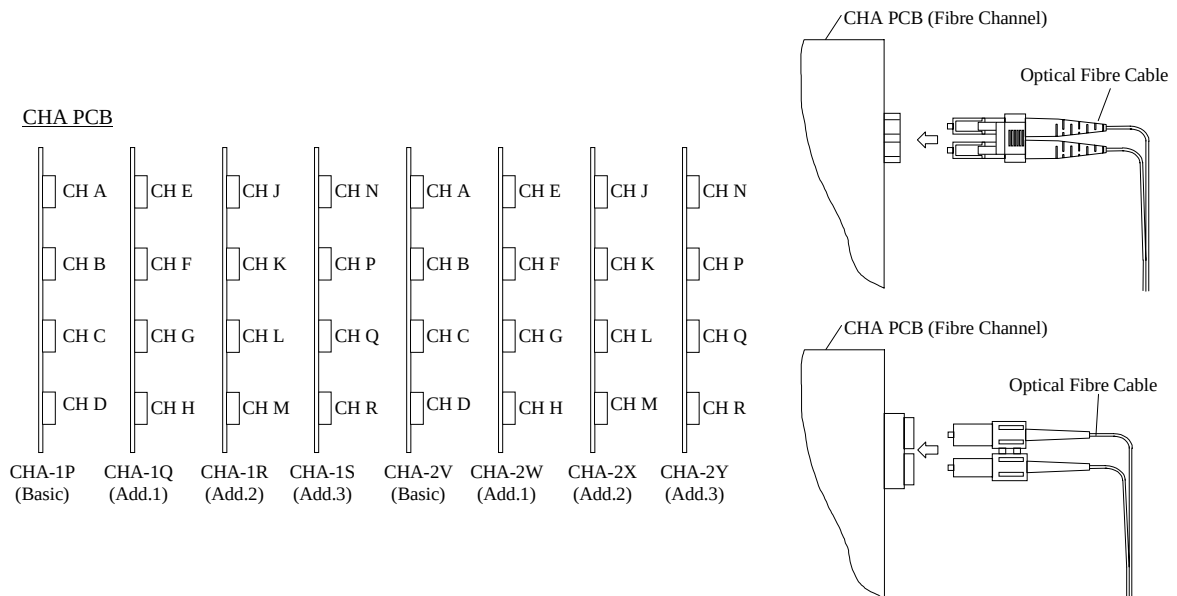

Fig. 3.8.2-4 Connection of Optical Fiber Cable
- Fix the cable to base and attach the cable clamp and bracket referring to Fig. 3.8.2-3.